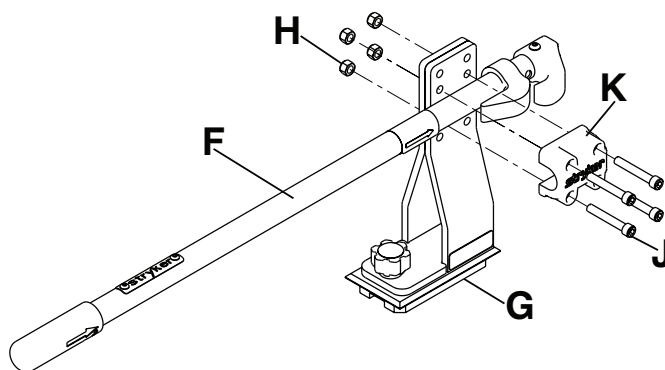

Figure 14 – Attach rail clamp to rail assembly
11. Position the rail assembly (F) on the support bracket (G) (Figure 14).
12. Install the four Nylock hex nuts (H) and four 5/16–18 x 2 in. socket head cap screws (J) to attach the rail clamp (K) to the rail assembly (Figure 14).